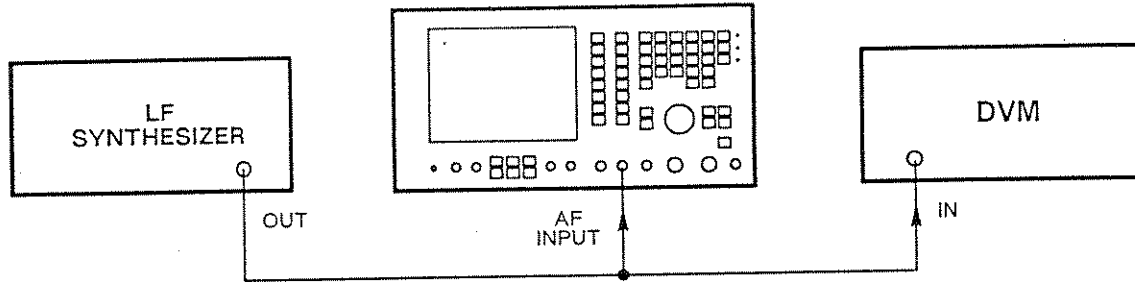

Fig. 6-8 Test equipment connections for voltmeter frequency response
- (1) Connect the LF generator and the DVM to the AF INPUT socket. See Fig. 6-8.
- (2) On the 2955B, set the MODE to AUDIO TEST, AC DC to AC, FILTER to 50 kHz LOW PASS and DIST'N to off.
- (3) Set the synthesized LF generator to give a 1 kHz sinewave at 1 V RMS into 50 Ω .
- (4) Set the DVM to AC, RMS.
- (5) Check that the AF voltmeter reading is the same as the DVM reading $\pm 3\%$ ± 3 mV ± 1 digit.
- (6) Repeat (3) and (5) at other frequencies between 50 Hz and 20 kHz.